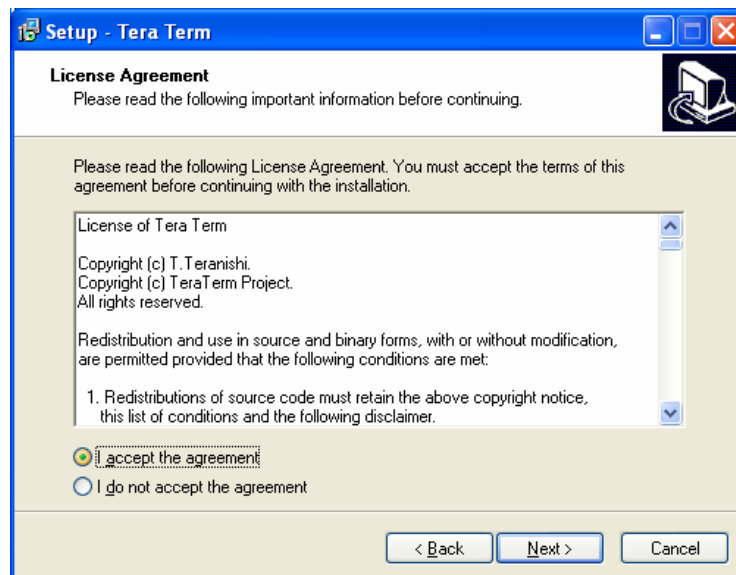

Figure 6-6: Tera Term License Agreement Screen
8. Click the **I accept the agreement** radio button, then click **N**ext (Figure 6-6).